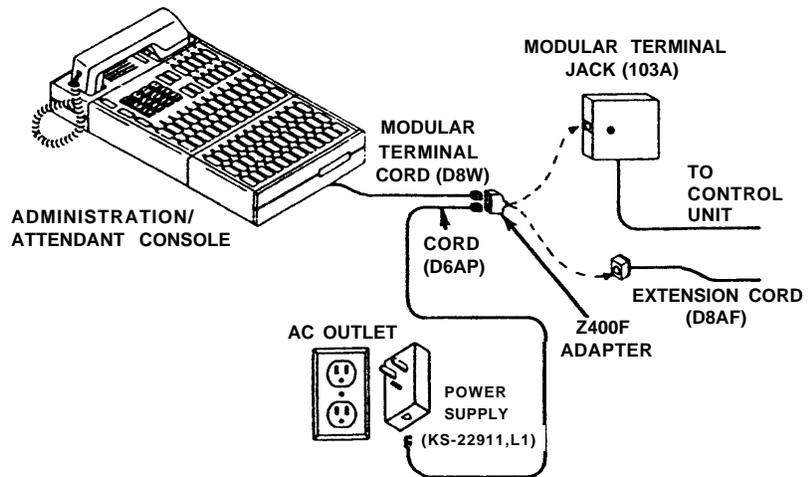

Figure 7
21. Disconnect the terminal cord (D8W) from the modular terminal jack (103A) or the extension cord leading to the control unit (Figure 7).
22. Plug the Z400F adapter into the jack left vacant when the modular voice terminal cord was disconnected in Step 21 (See Figure 7).